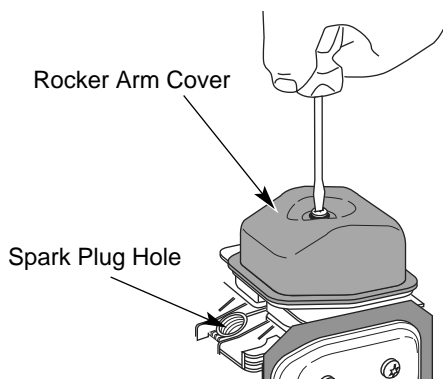

Fig. 65
- Clean dirt from around the rocker arm cover. Remove the screw holding the rocker arm cover with a large flat blade screwdriver or Torx T-25 bit (Fig. 65). Remove the rocker arm cover and gasket.
- ¥ The piston is at the top of its travel while looking in the spark plug hole (Fig. 65)